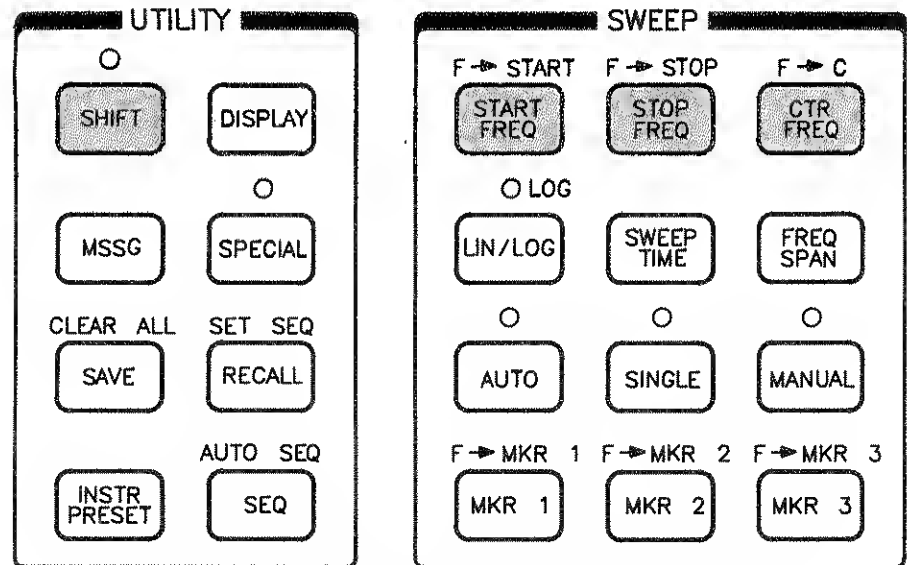

Figure 3-6. Shift Key for Start, Stop, Center, and Span.
- Sometimes it is useful to make the start, stop, center, or span equal to the value of the RF output frequency last displayed. To do this, press the blue **SHIFT** key, and then one of the start, stop, center, or span keys shaded in figure 3-6.